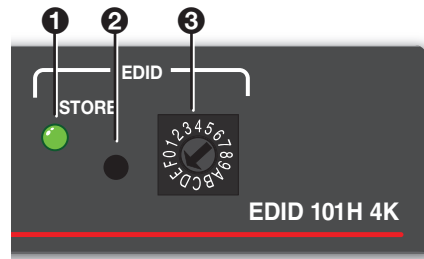

Figure 6. Store LED, Button and Rotary Switch (in Position E)
1. Turn the rotary switch (see figure 6, **3**) to the desired user slot location (D through F).
5. Press **STORE** (see figure 6, **2**) once to store the display EDID to the memory slot selected in step 1. The LED (**1**) blinks. When the LED returns to solid, the EDID is stored.